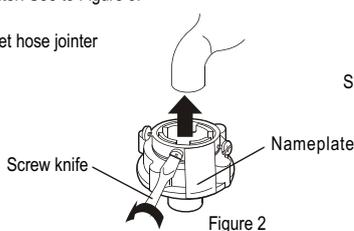
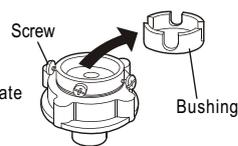

Figure 2
Figure 3
2. Loosen the four screws of the water inlet hose jointer till the water faucet can be accessed. Then set the water inlet hose jointer on the faucet. See to Figure 2. If the faucet is too large and the jointer cannot be set on, please loosen the four screws and take out the bush inside the jointer. See to Figure 3.